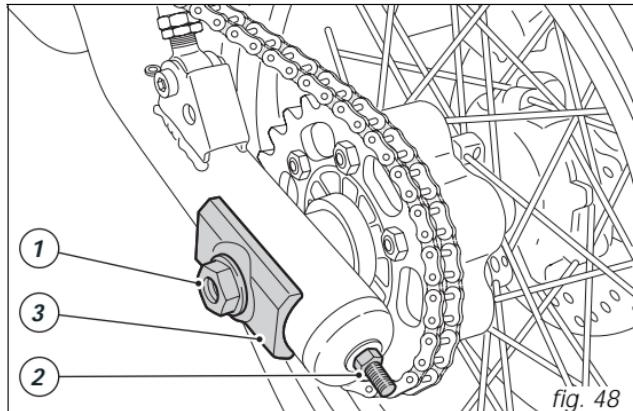

fig. 48
Slacken the nut (1, fig. 48) of the wheel shaft, tighten (turn clockwise) or slacken the nuts (2) on either side of the swingarm equally to increase or reduce chain tension. If you are slackening the chain, you will have to push the wheel forward.
Make sure you have adjusted to the same setting marks on both sides of the swingarm. Refer to pointer on slider (3, fig. 48). This will ensure perfect wheel alignment.